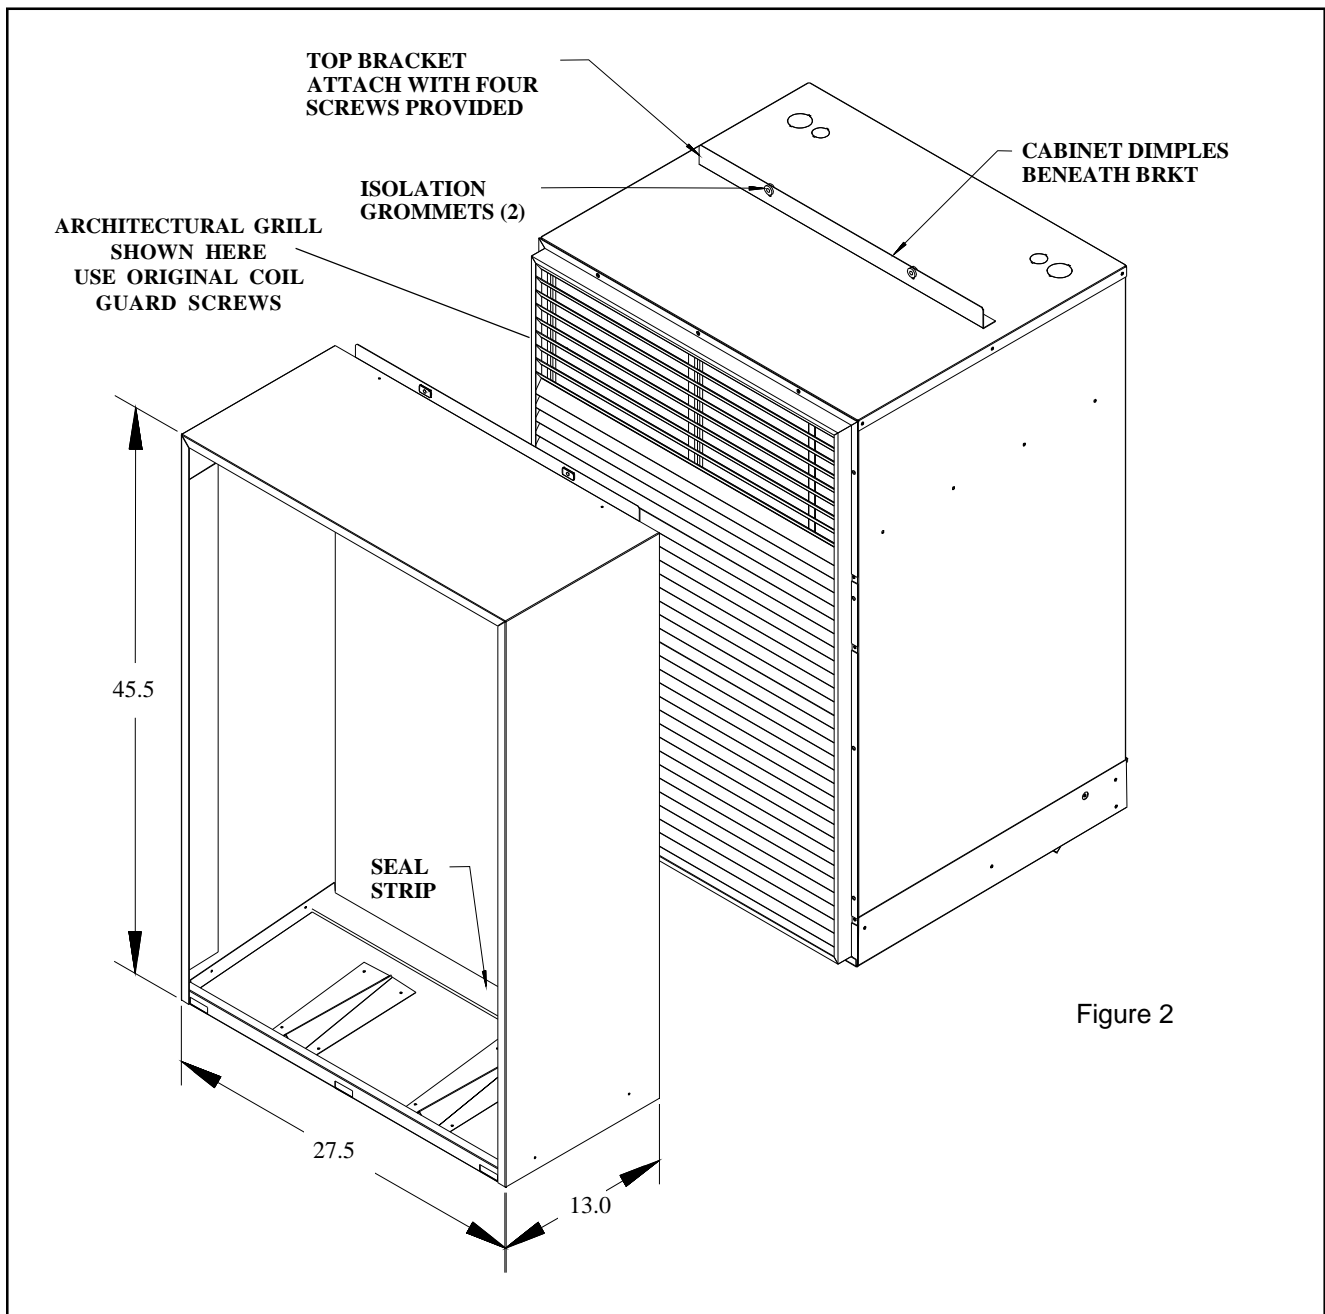

Figure 2
**CAUTION - If using the optional architectural grille then install it before setting the unit using the screws holding the original coil guard. See fig. 2**
(1) After the sleeve is secured, install the WHSC or WHHP unit into the sleeve. Set the bottom edge of the unit on the opening edge of the sleeve. With the top of the unit tilted slightly backwards, apply primary force towards the bottom of the unit while pushing forward until the unit comes to a stop on the sleeve face. The mounting flange on the WHSC or WHHP should then mate up flush with the sleeve flange.
**NOTE:** Make sure isolation grommets are installed on sleeve flange (see. fig. 2).
- (2) Before bolting the unit to the sleeve apply a bead of silicone sealant approved for exterior use between the sleeve and the unit top and both sides. The flange on top of the unit may be temporarily removed to facilitate ease of applying sealant on top of unit.
- (3) Using the 1/4" - 20 hex bolts and washers, secure the unit at the flange while the sealant is still tacky.